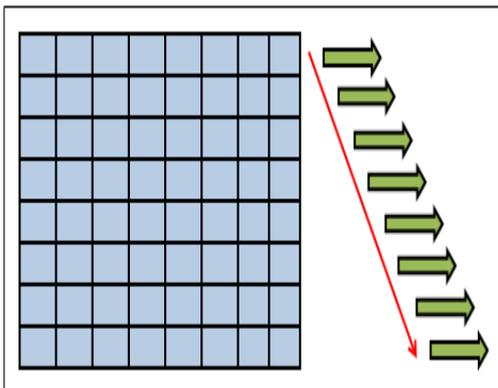

Figure 11-15 Top to bottom readout
- Top to bottom readout (Figure 11-15): The data is readout from the top to the bottom line.